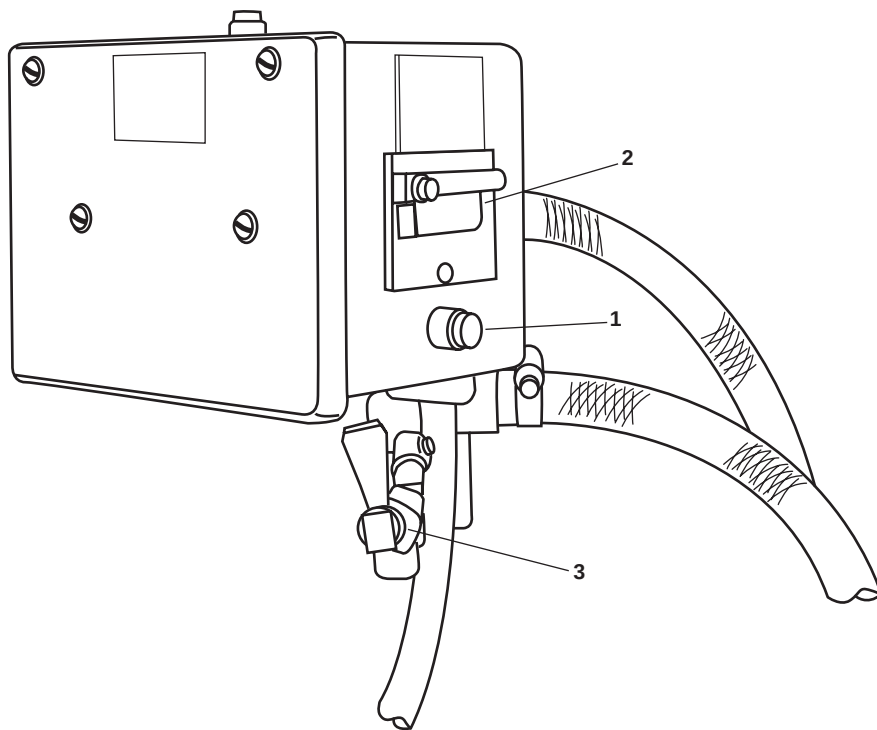

Figure 2. Brominator Cartridge Change Indicator
5. Check that the CARTRIDGE CHANGE indicator light (figure 2, item 1) is not illuminated, and that the cartridge change indicator meter (figure 2, item 2) is operating.
6. Draw a sample of water from the test tap (figure 2, item 3).